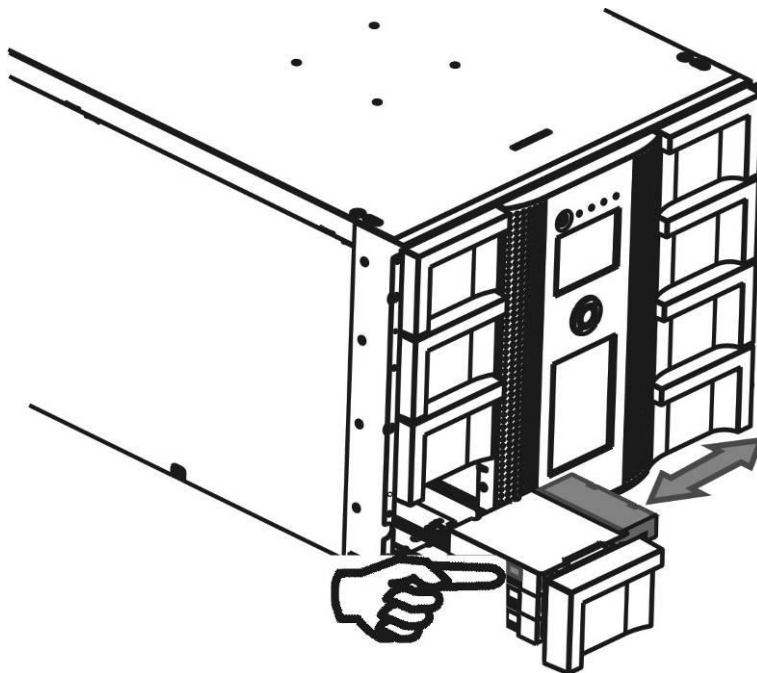

Figure 139 Removing a stuck tape (8U)
3. To remove the tape cartridge, see **Figure 139**: